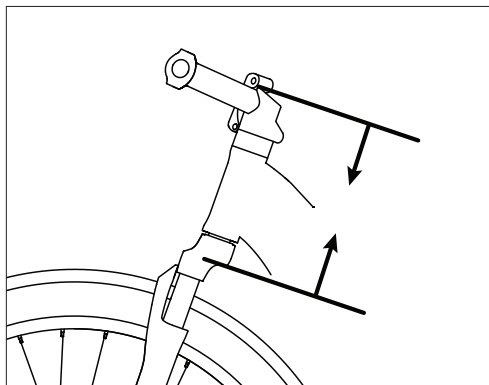

Fig. 14: Apply clamping force to tension headset
6. With the stem aligned parallel with the front wheel, apply a clamping force between the top of the stem assembly and the fork crown. This will press the stem down onto the headset bearings (Fig. 14).